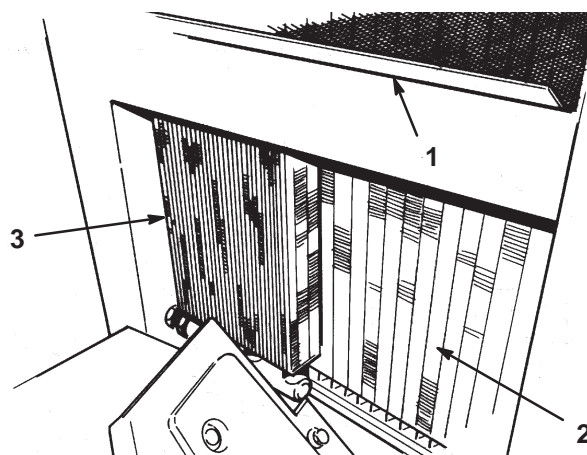

Figure 49
1. Remove the radiator screen (Fig. 49).
3. Thoroughly clean the oil cooler (Fig. 49) and remove any other debris that may have collected around the components.